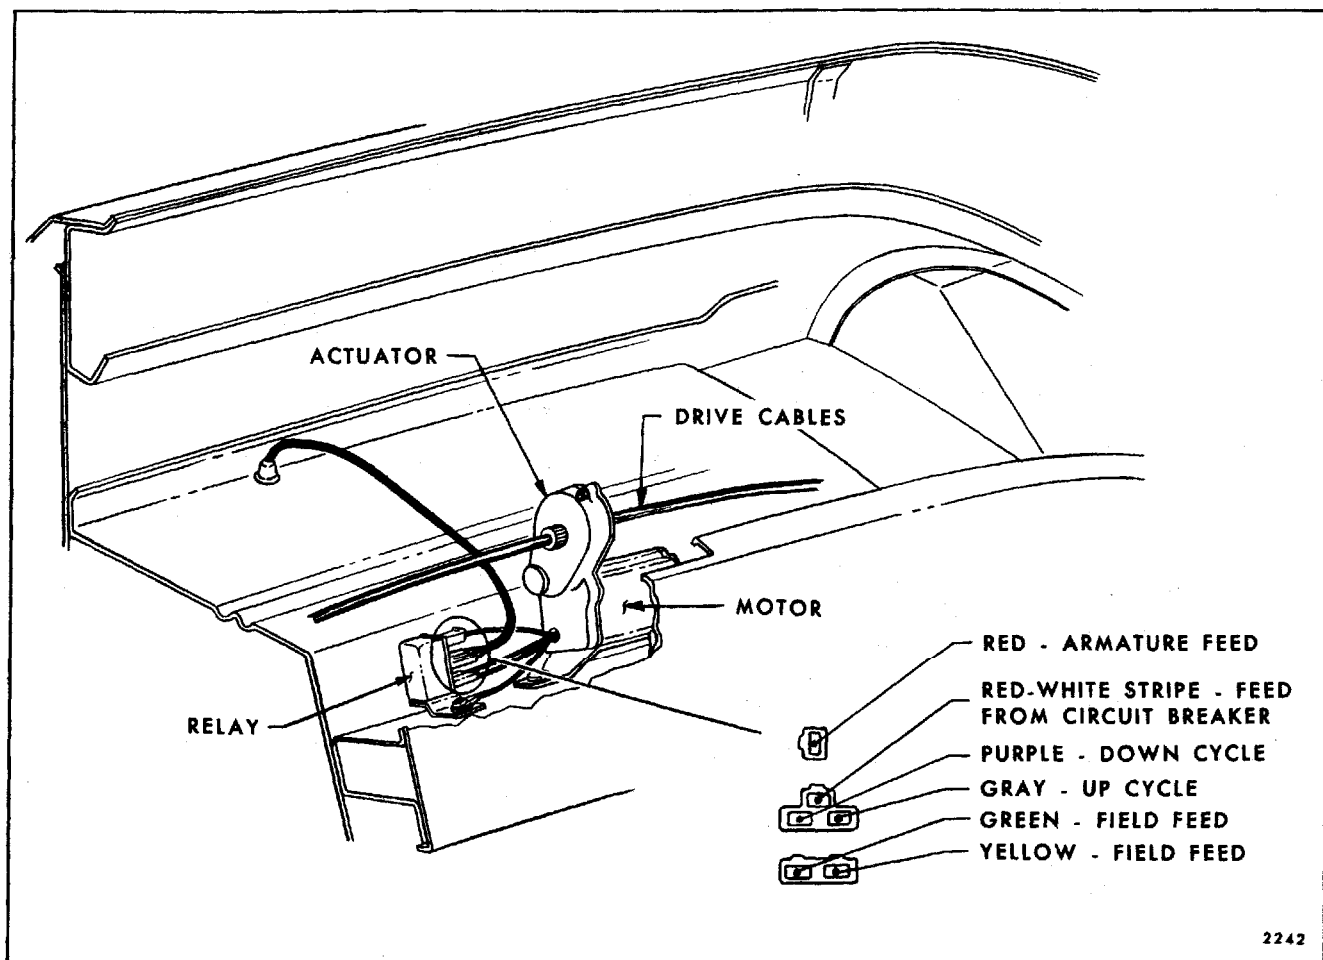

Fig. 11-71—Electric Folding Top Motor and Actuator - Corvair
The electric folding top assembly is actuated by a 12 volt shunt-wound motor located under the folding top compartment bag (see Fig. 11-71).
1. Disconnect three leads from relay assembly. These are the wires leading from the motor to the relay. (Red, Green, Yellow, Fig. 11-71).